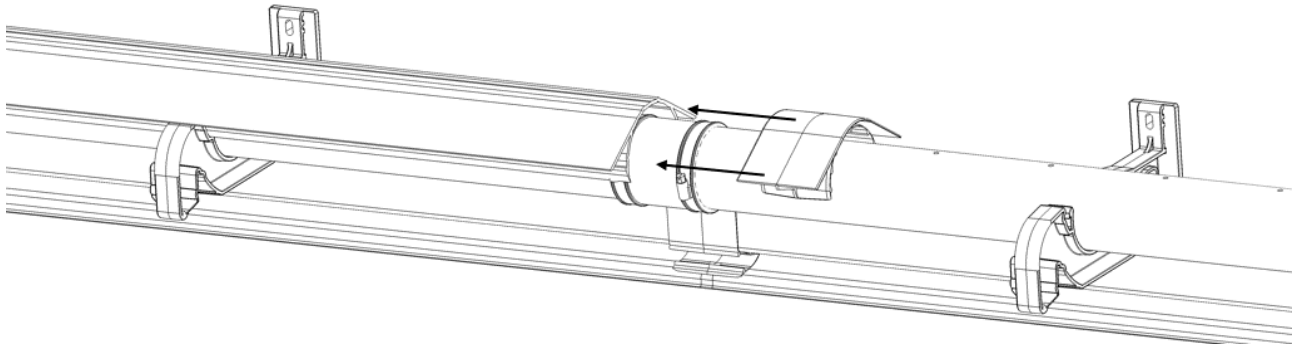

Figure 28
Add the Deflector Coupling [ref. 15] in order to join all the Deflectors together. See Figure 28.